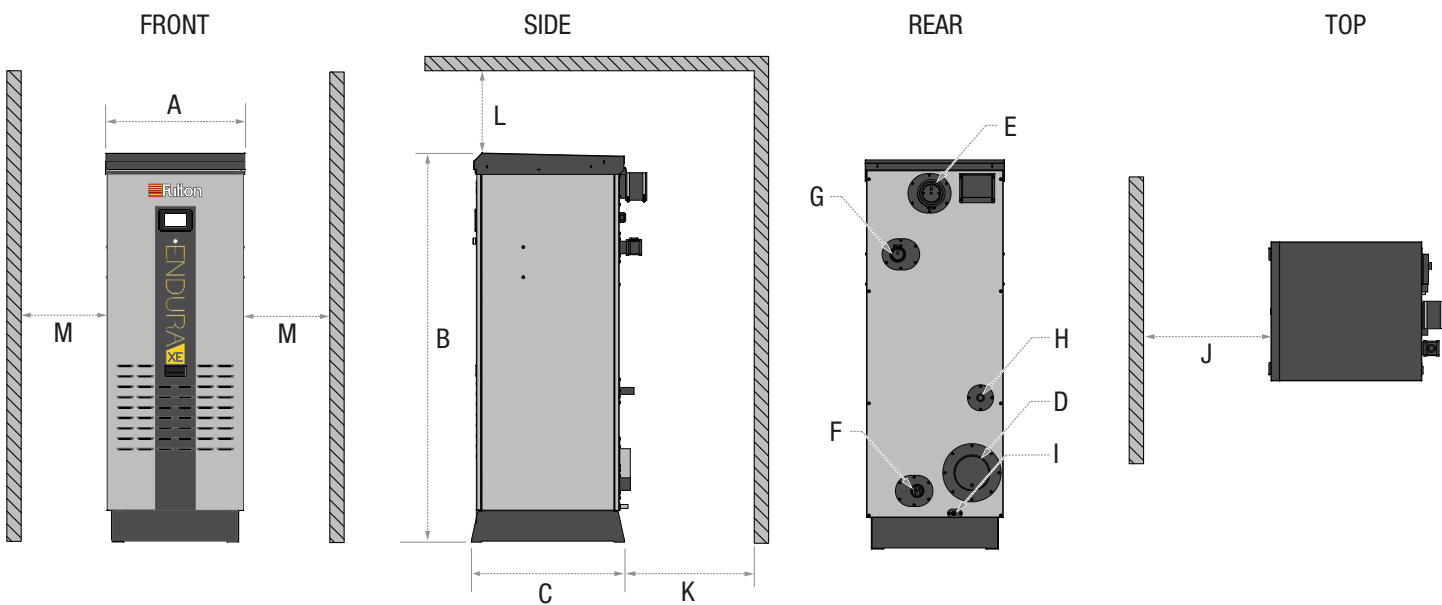

FIGURE 1 - DIMENSIONS AND CLEARANCES
Prior to the performance of installation, operation, or maintenance procedures, personnel should become familiar with the equipment (**Table 1** and **Figure 1**) and its components.
2. Appropriate front, back, side and top clearances must be maintained (**Figure 1**). This will allow equipment access to facilitate maintenance and a safe work environment. Side clearance is not necessary unless required by local code(s).